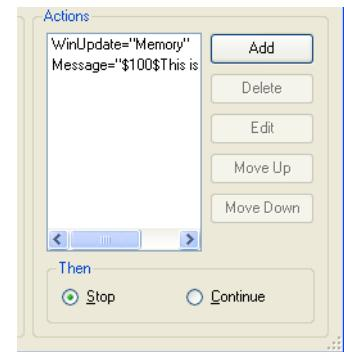

Figure 12-7 The breakpoint action list
6. Click **OK** to close the Add Action dialog box. The action is added to the breakpoint action list, shown in Figure 12-7.